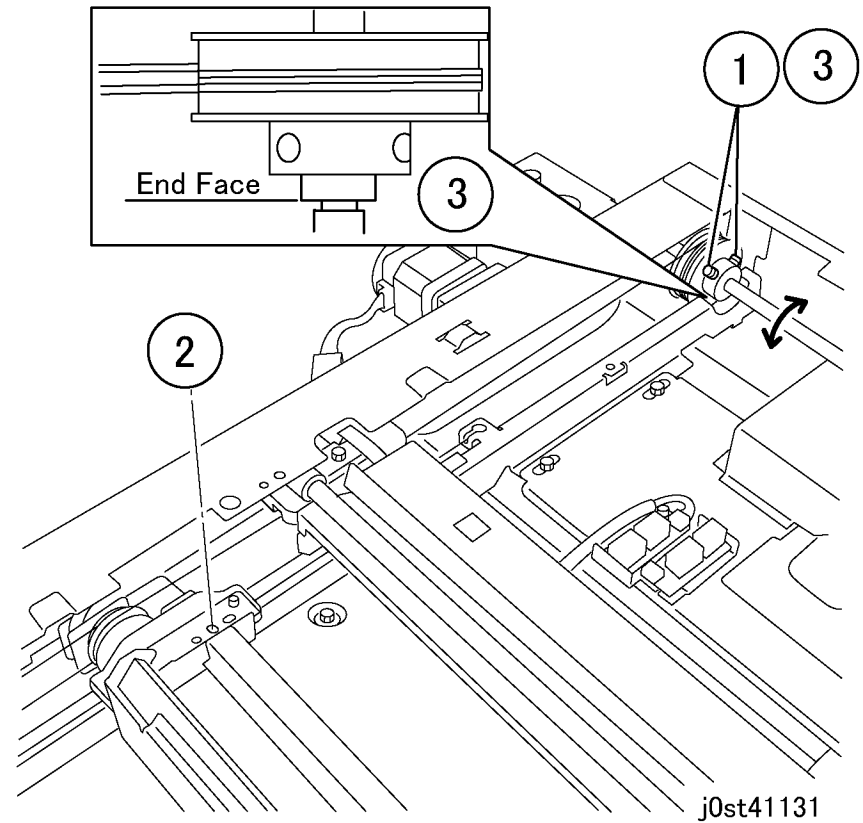

Figure 4 Position Adjustment of Half Rate Carriage
9. Adjust the pulleys (Figure 4).